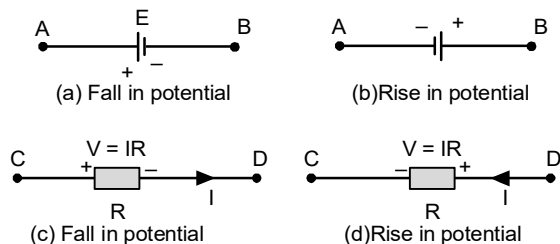

Fig.1.41: Algebraic signs for emf and voltage drop.
Consider a branch AB containing only one source of e.m.f. (E) as shown in fig.1.41(a). If this branch is traced from A to B , there is fall in potential, therefore, E is taken as negative (*i.e.* $-E$).
Similarly, if the branch is traced from A to B in fig.1.41(b), there is rise in potential and E will be taken as positive (*i.e.* $+E$), *i.e.*
- In fig.1.41 (b) from A to B , E is negative ($-E$);
- In fig.1.41(b), from A to B , E is positive ($+E$).
To determine sign for the voltage drop $V (= IR)$, consider a branch containing resistor of resistance R ohm in which current I ampere flows from C to D as shown in fig.1.41(c). Therefore, C is at higher potential w.r.t. terminal D .
Similarly, while tracing branch C to D in fig.1.41(d), V is positive (*i.e.* $+V$) as there is *rise in potential* and we are moving opposite to the flow of current.